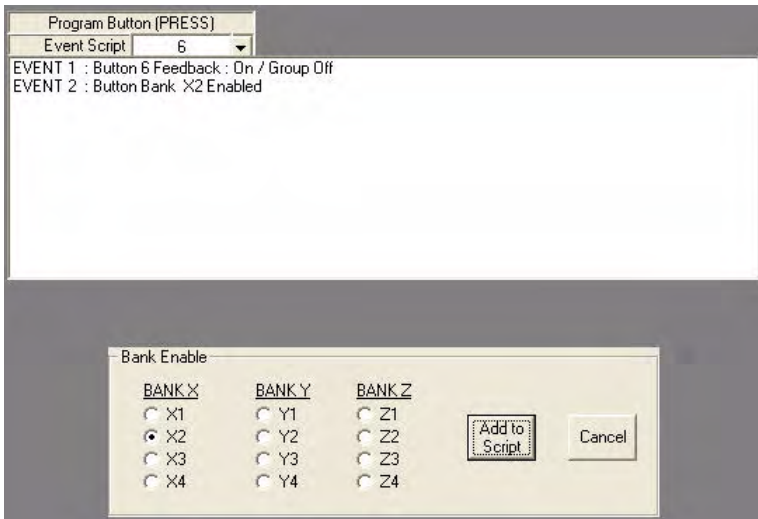

FIG. 69 Button 6 script, with Enable X2 Bank selected
- Write a Script for Button 6 and include Enable Bank **X2** (FIG. 69).